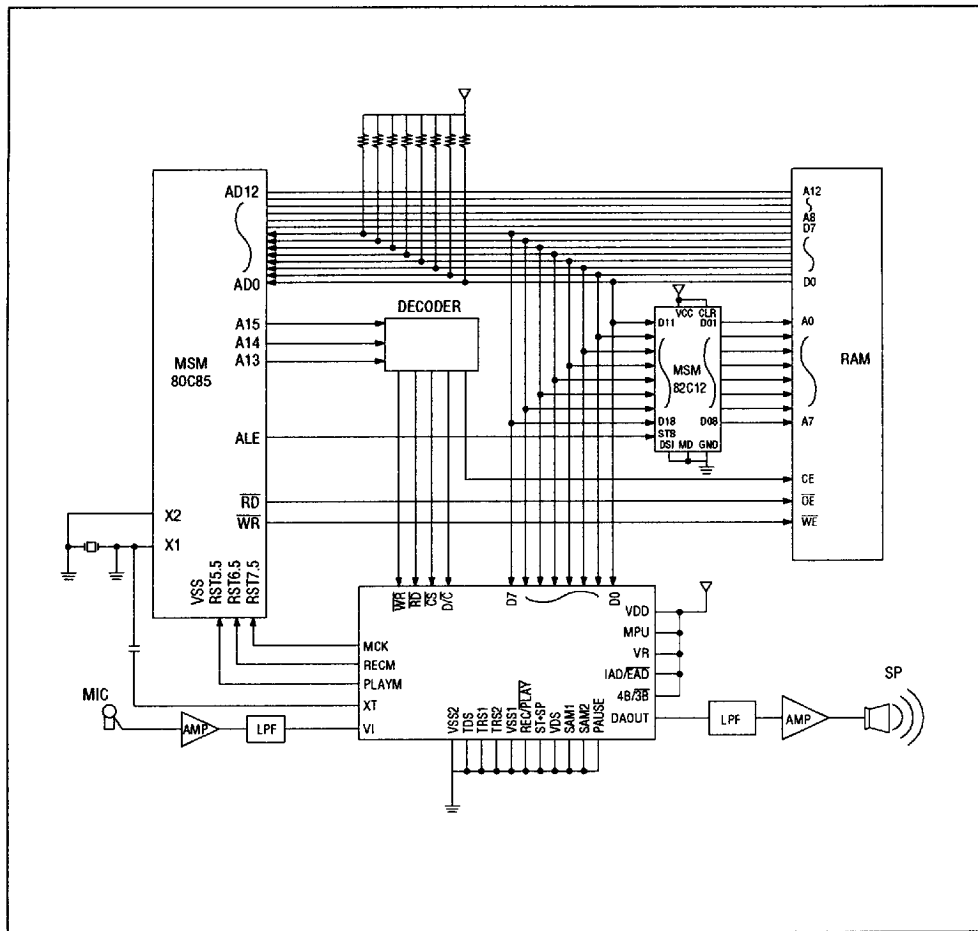

Figure 32 Example of Interface with MSM80C85
- Figure 32 shows an example of interface with MSM80C85 when MSM6258, is used in CPU interface.